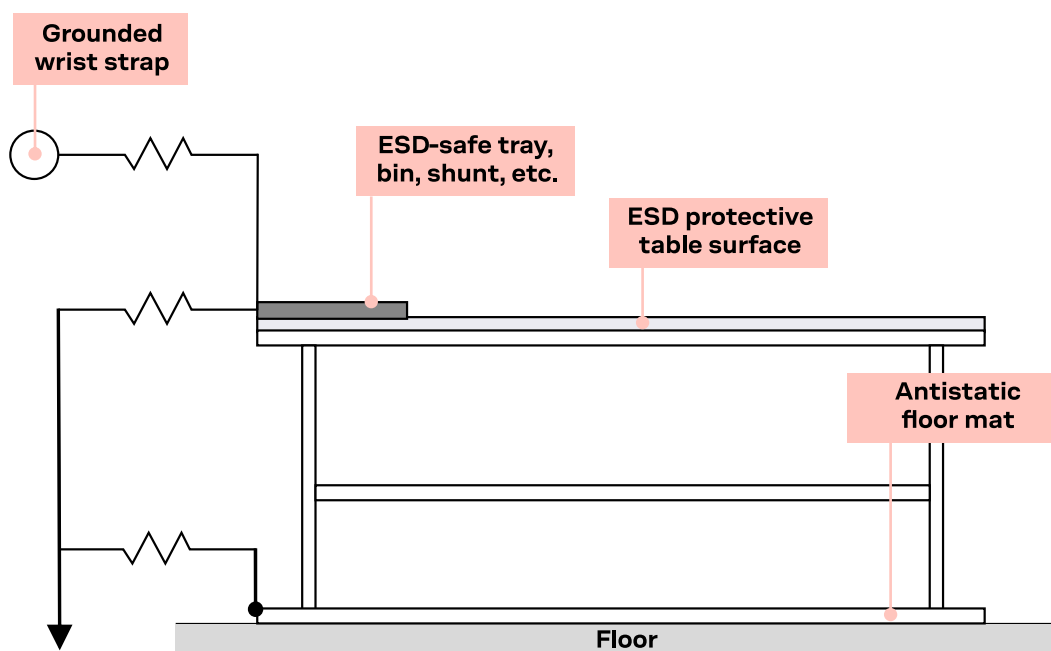

Figure 36: Standard workstation setup for safe handling of ESD-sensitive devices
- Open the package within an ESD-protected area (EPA), as in Figure 36.